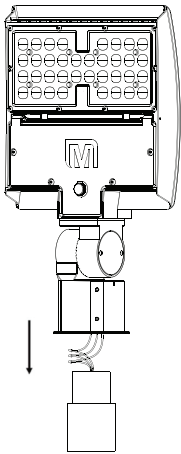

FIG. 1
1. Connect the power supply wires to the fixture input wires (see Wiring Diagrams above). Lay the wires into the pole and insert the slipfitter onto the pole (see **FIG. 1**).